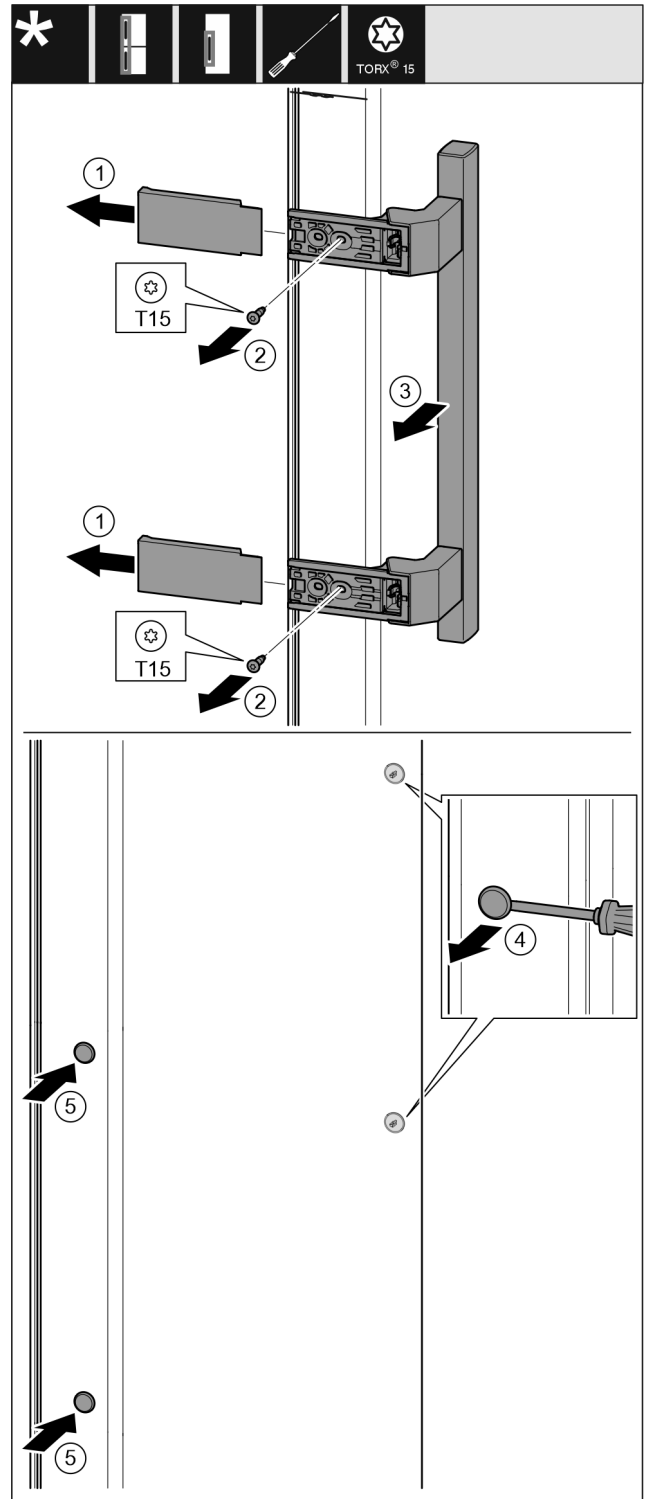

*Fig. 38*
- Pull out the guide bush: Press the lug with a slotted screwdriver and, at the same time, insert the slotted screwdriver under the guide bush. *Fig. 38 (1, 2)*
- Slide the guide bush included in the scope of supply to the other side of the housing. *Fig. 38 (3)*